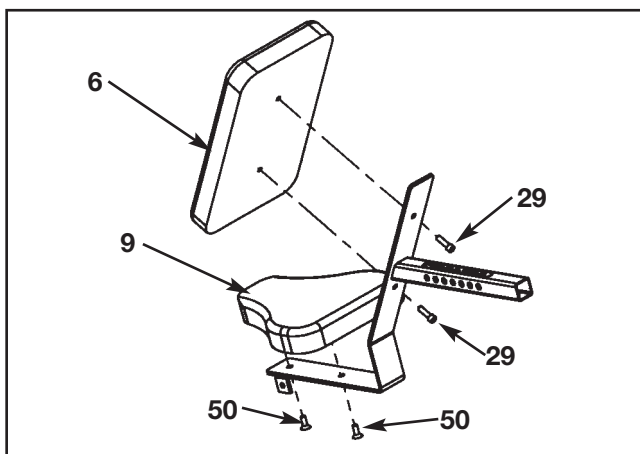

Figure 27
- E. Install seat and back cushions as shown in Figure 27.
- H. Secure cushion assembly using SHCS and hex nut (removed from step 10C). See Figure 27.